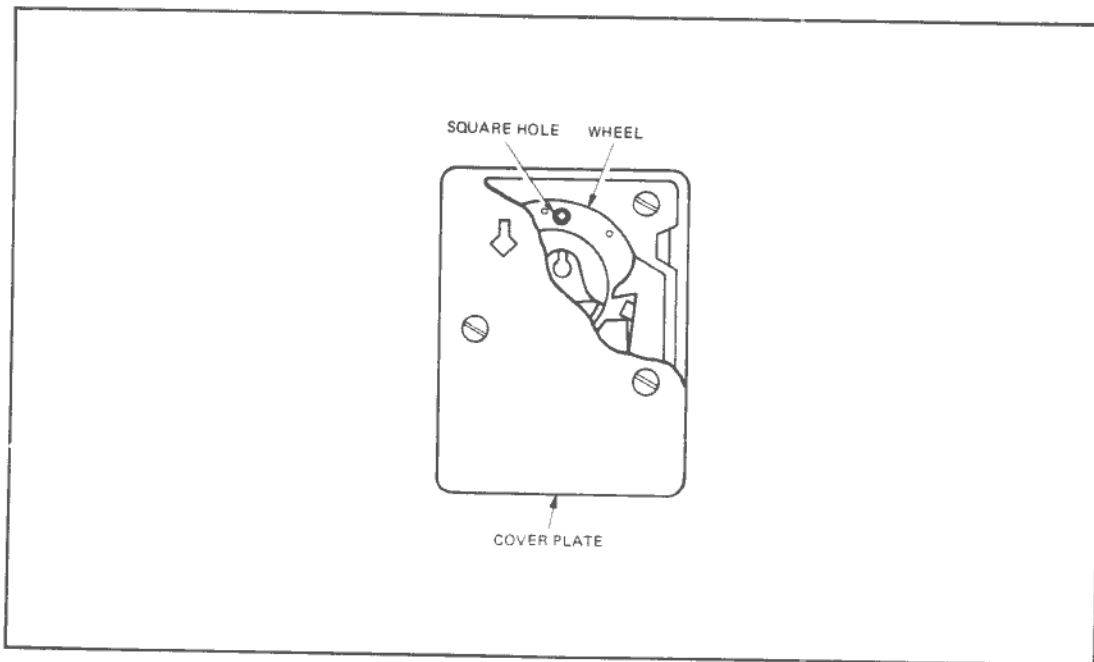

Figure 3-12. Lock Mechanism
1. Remove the cover plate on the back of the lock (refer to figure 3-12).